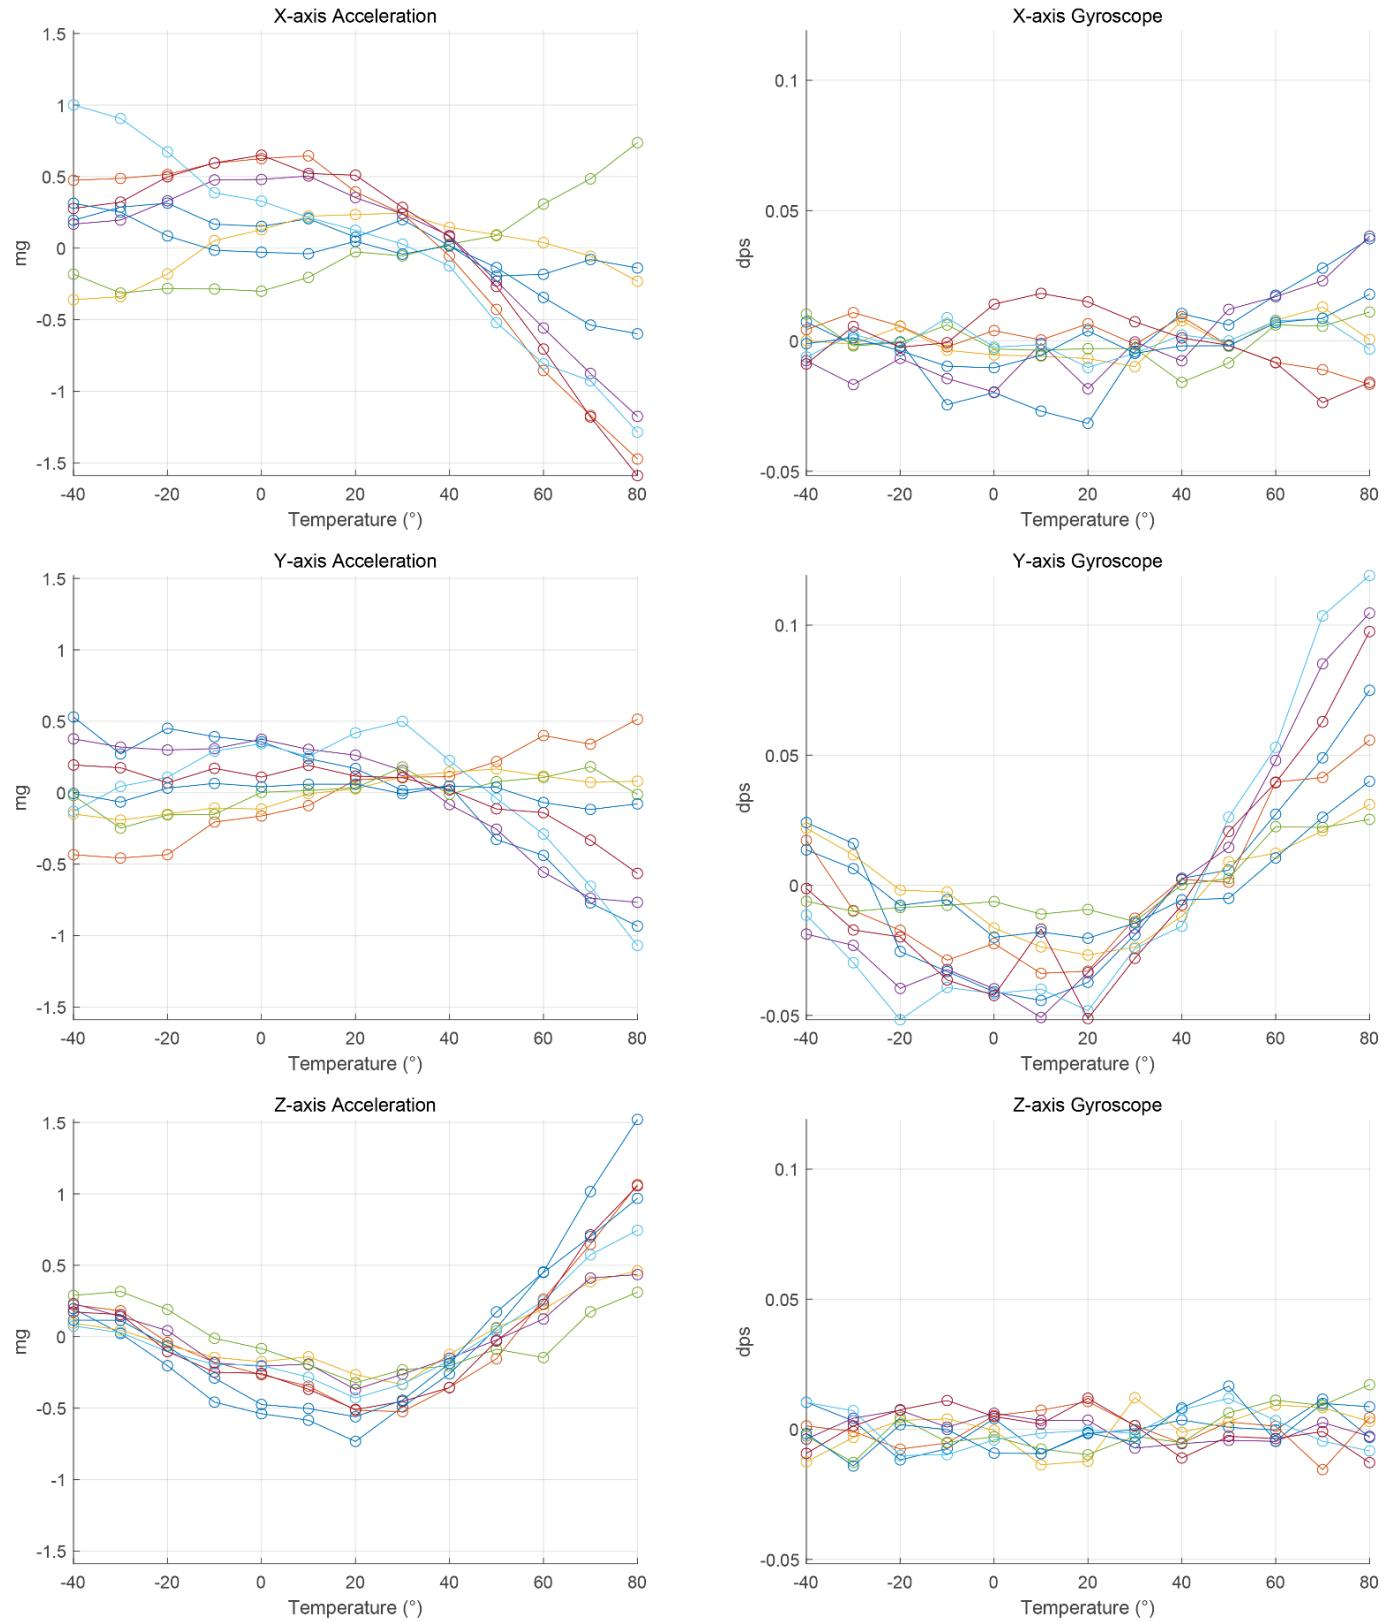

Figure9: Accelerometer and Gyroscope Temperature Compensated Curve
**Note4:** Measured by the HiPNUC laboratory temperature chamber turntable, with a temperature rise rate of less than 3° C/min. For detailed data, refer to Figure 9 temperature compensation curve.
**Note4:** Measured from the Hipnuc laboratory temperature-controlled turntable, with a temperature rise slope of less than 3°C/min. Detailed data can be found in Figure 9 temperature compensation curve.